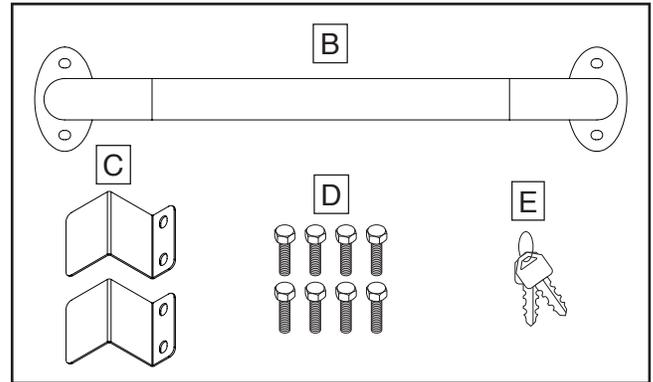

Figure 2. Inventory.
| Crate (Figure 2) | Qty |
1. Attach handle and cord-wrap brackets to end of tool cabinet with (8) M6-1 x 20 hex bolts (see **Figure 2**).